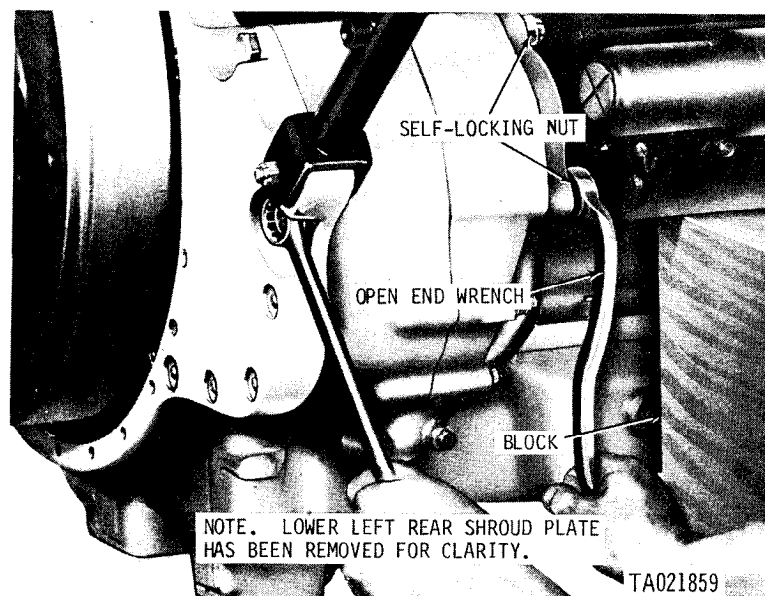
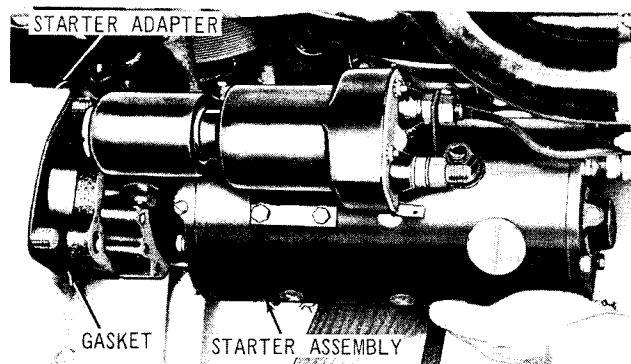

Figure 2-12. Removing or installing starter mounting nuts.
Figure 2-13. Removing or installing starter assembly.
(7) Remove starter assembly (fig. 2-13) from starter adapter. Remove and discard mounting gasket.
(1) Install two bolts through transmission and starter adapter. Install new mounting gasket (fig. 2-13) on starter adapter. Position starter assembly on starter adapter and position suitable blocks (fig. 2-12) under starter assembly for support.
(2) Install two self-locking nuts on bolts and one self-locking nut on stud (behind starter) using open end wrench Part No. 8761568 (fig. 2-12).